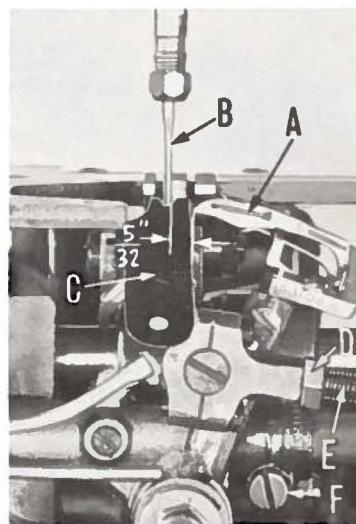
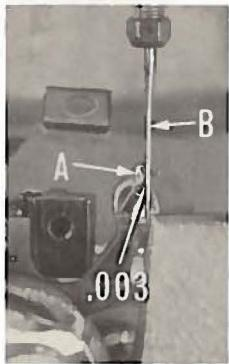

Fig. 5
Fig. 6
With the zig-zag motion at the end of its stroke to the right, set the looper (A, Fig. 5) so the distance from the center of the needle (B) to the point of the looper is $5/32$ inch, when the looper is at its farthest position to the right. Looper gauge No. 21225- $5/32$ (C) can be used advantageously in making this adjustment. If adjustment is needed, loosen nut (D) (it has a left hand thread) and also loosen nut on right end of connecting rod (E), turn connecting rod forward or backward to obtain $5/32$ inch and retighten both nuts.
The looper is set correctly in line with the feed when there is .003 inch space between its point (A, Fig. 6) and the rear of the needle (B) as the former is ascending on the right side. If adjustment is needed, loosen screw (F, Fig. 5) and move looper toward or away from needle as required and retighten screw when .003 inch space is obtained.